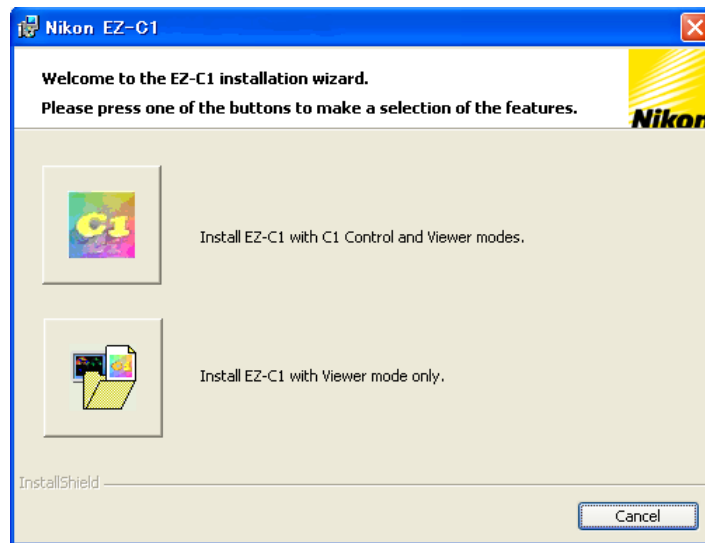

Figure 1.3-4 Installer screen
- (2) Next, click “Install EZ-C1.”
- (3) A screen similar to the one shown below (Figure 1.3-4) will appear. Press the upper button in this screen to install EZ-C1 or the lower button to install only Viewer.